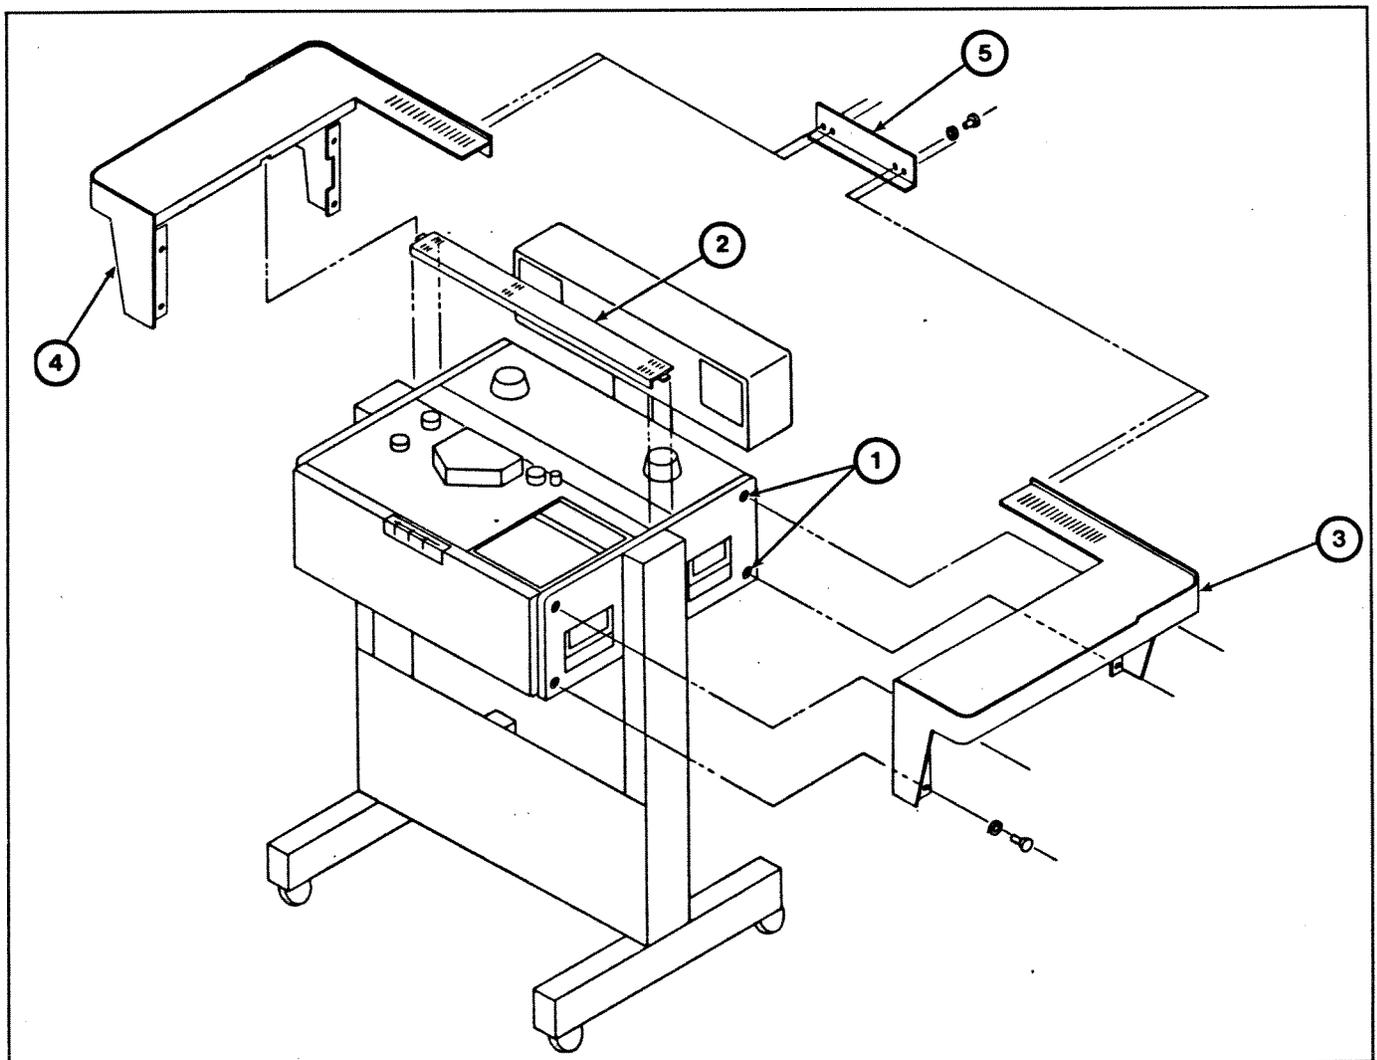

Figure 1. Installation of MB-5000 Side Brackets
*Not shown, used for outer cosmetic assembly. See Figure 1.